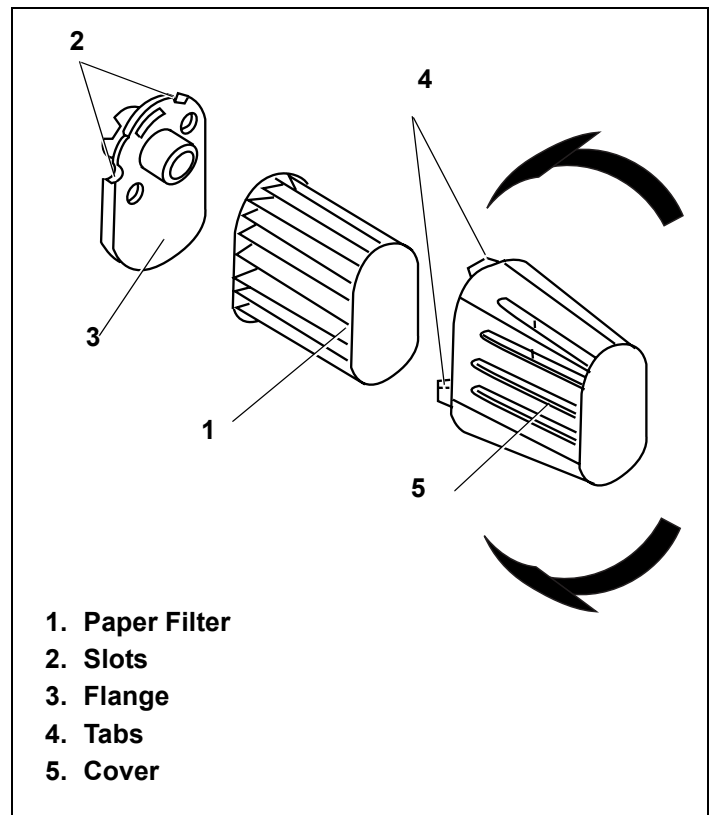

Figure 48. Air Cleaner Type "B" Assembly
1. Turn cover to right (clockwise) to remove. See Figure 48.